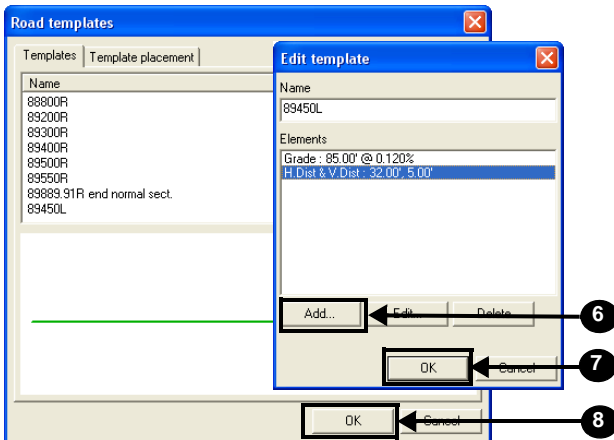

Figure 6-37. Add Template to Road Templates List
7. Review the elements as needed and press **OK** to add the template to the template list (Figure 6-37).
- Click **OK** on the **Road templates** dialog box (Figure 6-37 on page 6-30) to apply the changes to the file.